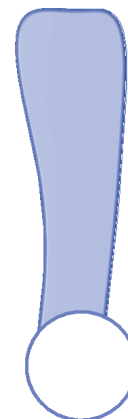

Fig. 23
Step 3. Click the blade solid and press ENTER, **Fig. 23**.